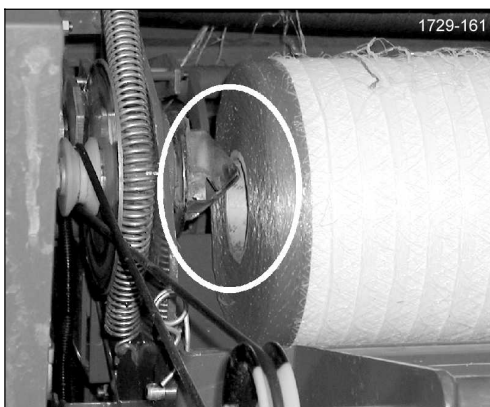

Figure 43
**Note!** (Figure 43) The tips of both tensioning spindles must point into the sleeve of the net roll.